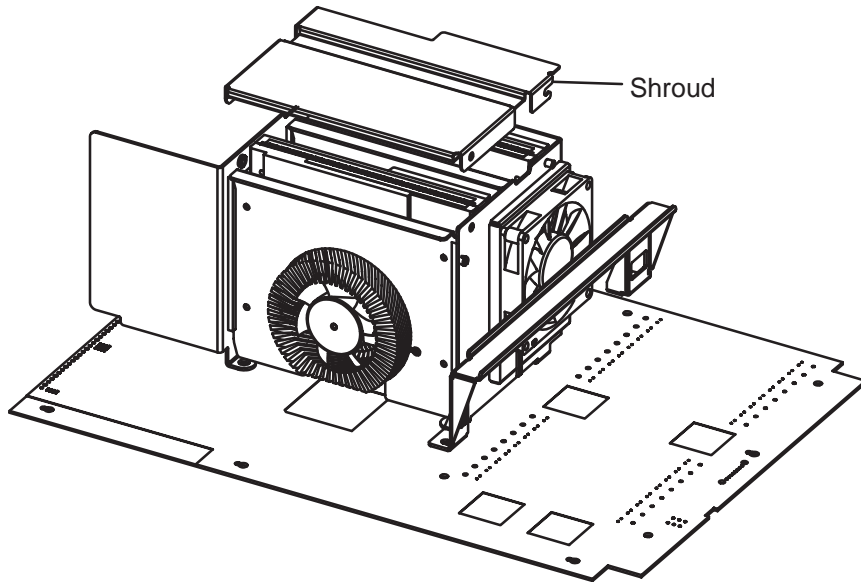

Figure B-28. CPU Shroud Location J282/2240
5. Locate the CPU shroud as shown in Figure B-28.